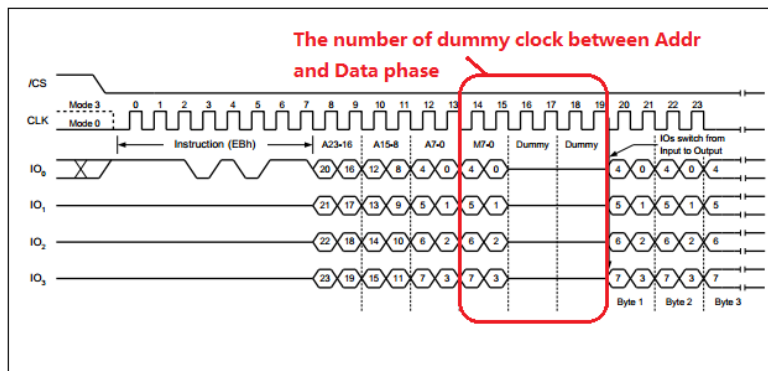

Fig 15-2 Fast read quad I/O instruction sequence
- There are 6 dummy cycles in Read Quad I/O mode, as Fig 15-2 shows.